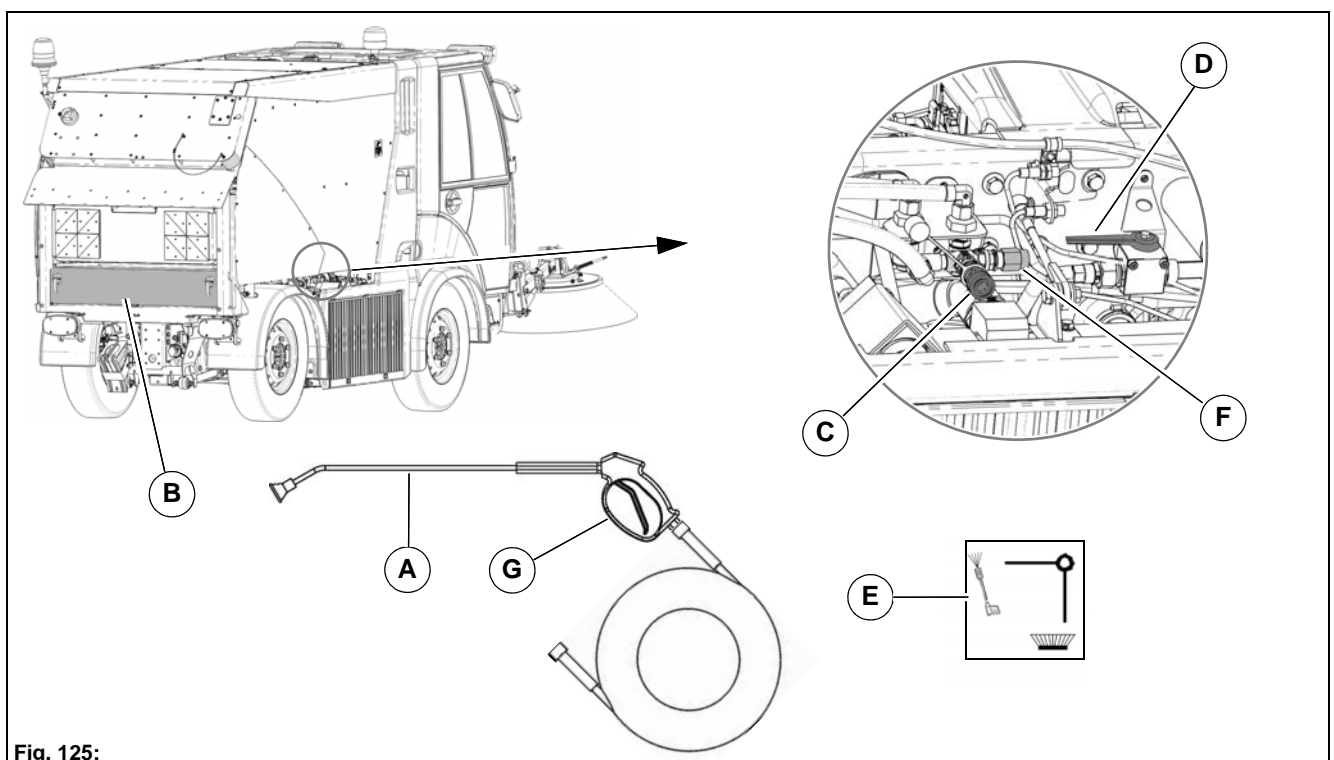

Fig. 125:
2. Take the spray lance and the pressure hose **Fig. 125-A** out of the toolbox **Fig. 125-B** and connect them to the quick coupler **Fig. 125-C**.
3. Start the vehicle, see page 111. Set the changeover valve **Fig. 125-D** to the high-pressure cleaner position **Fig. 125-E**.
4. Aim the spray lance at the surface to be cleaned and switch on the water jet by pressing the lever **Fig. 125-G**. Set the desired working pressure with the pressure controller **Fig. 125-F**.